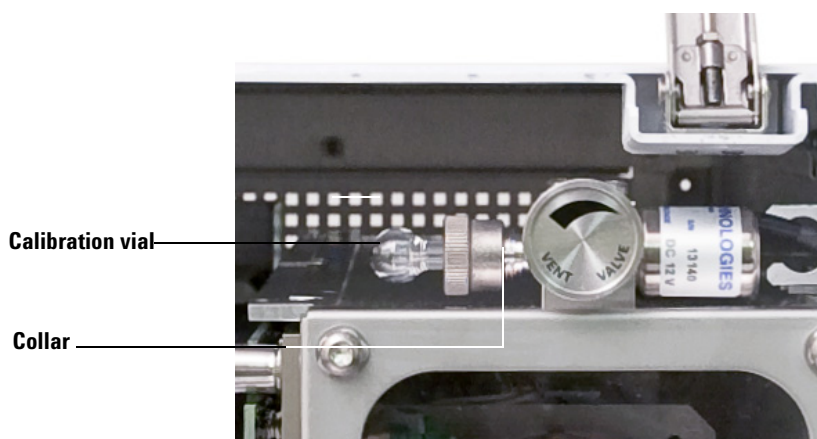

Figure 7 Removing the EI calibration vial
- 4 Loosen the calibration vial collar (Figure 7). Do not remove the collar.
- 3 Loosen the collar and remove the calibration vial (Figure 7). Just loosen the collar, do not remove it.
- 1 Remove the old valve assembly. See page 128 and Figure 7.